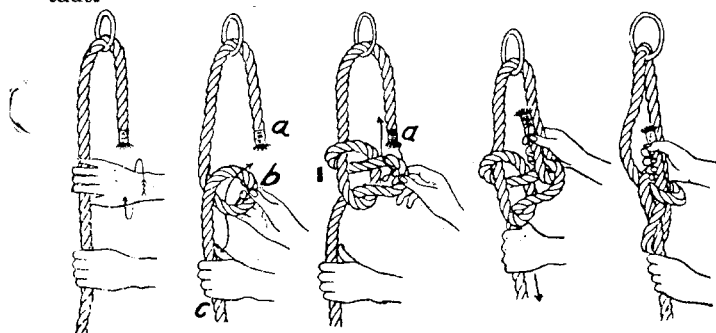

Figure 15. Boy's bowline knot
(2) **BOWLINE - BOY'S METHOD.** Placing the rope through a ring or around the object to which it is to be tied, lay both hands, palms down, on the standing part of the rope (Figure 15, left). With a twist of the right hand, make a loop or half hitch b. Now, with the left hand, pull the standing part of the rope c through the half hitch b, making a loose slip knot (Figure 15, center). Bring the end a through the loop of the slip knot d and fold it back upon itself, holding it firmly with the right hand. With the left hand on the standing part of the rope, give a quick jerk in the direction indicated by the arrow and the knot is completed (Figure 15, right).